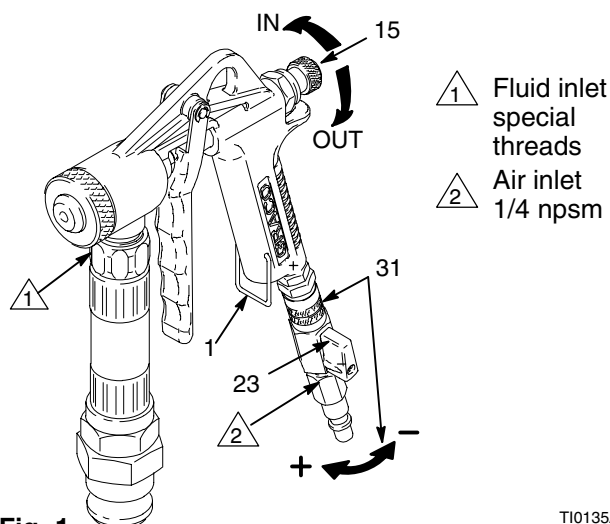

Fig. 1
The standard gun adjustment is to adjust the fluid regulator (15) so only 1 or 2 threads are visible and fully open the air valve (23). (Fig. 1).